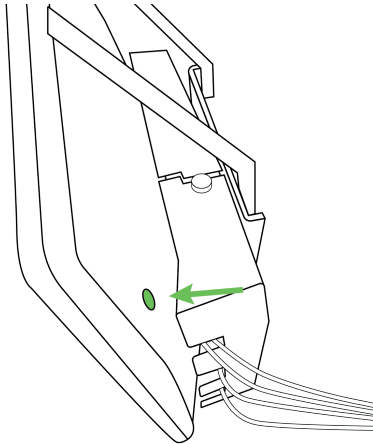

Figure 6-66. Turning on the Elo Touchscreen
- b. Turn on the Elo Touchscreen by pressing the power button located on the back right side of the monitor (Figure 6-66).